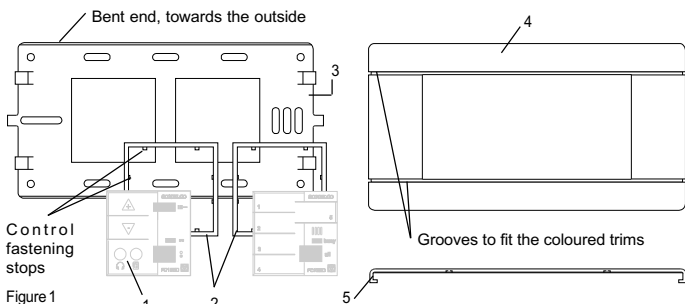

Figure 1
**3 - RECTANGULAR FRONT FRAME FOR "SONELCO" BOX 4901 or DOUBLE UNIVERSAL BOX (Adaptation for 2 modules):** To assemble the control correctly, place the base plate as shown in figure 1, with the bent edge towards the side where the control is inserted.